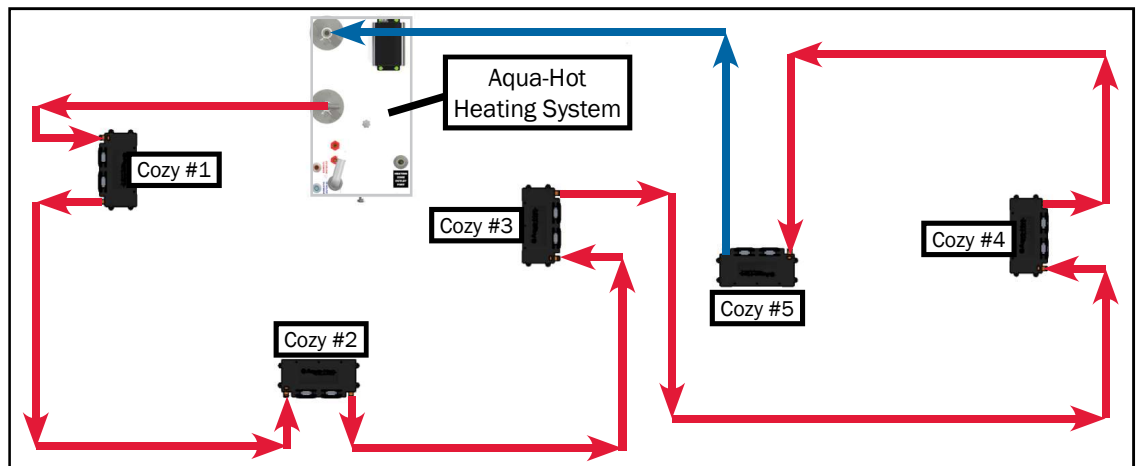

Figure 25
1. Layout the plumbing lines for all heat exchangers (see the example in Figure 25).